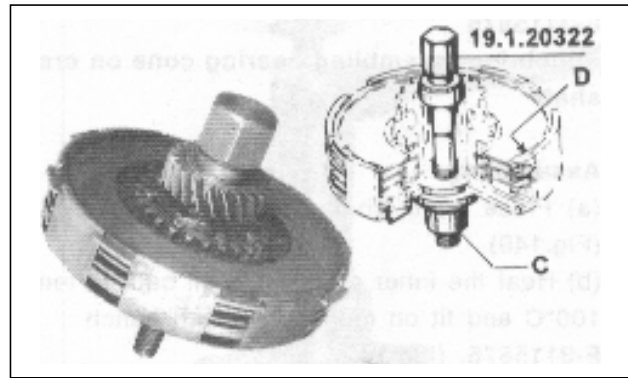

Fig. 145-Clutch unit
- (a) Fix the tool T-0020322 to clutch unit and compress by tightening nut 'C'. (Fig.145)